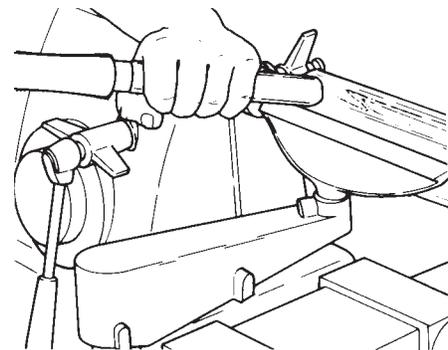

Figure D-44
- d. Feed the gouge into the stock and draw it back along the tool rest. Repeat this procedure until the stock is completely round. See Figure D-44. Turn off the Mark 7.